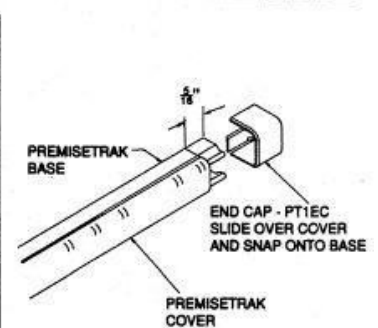

FIG. 5
5. Where PREMISETRAK ends, and does not terminate in a box, install end cap (fig. 5).